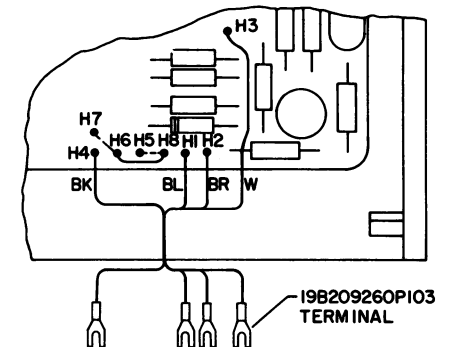

FIG. 6
4. MODIFY DIAL ENCODER PL19B226145 (SEE FIG. 6) TO THE FOLLOWING INSTRUCTIONS: